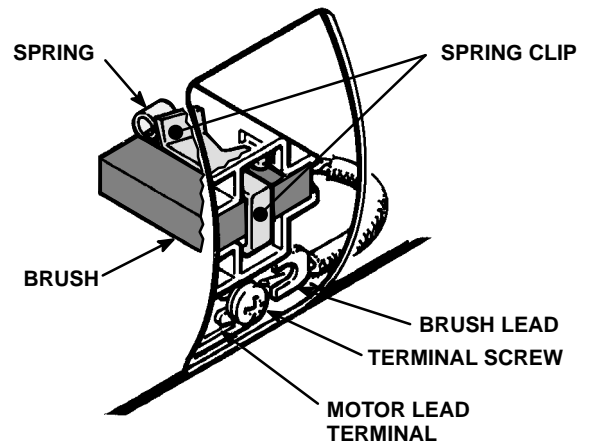

Fig 23-3
**NOTE:** Replace the brushes when they have worn to less than 1/2 in. See STEP 1, Fig 23-3. Note that the brushes wear differently on each side of the motor, so check them both. Brush Repair Kit 820-536 is available.
3. *Loosen* the brush lead terminal screw. Pull the brush lead away, leaving the motor lead terminal in place. Remove the brush and spring. See Fig 23-3.